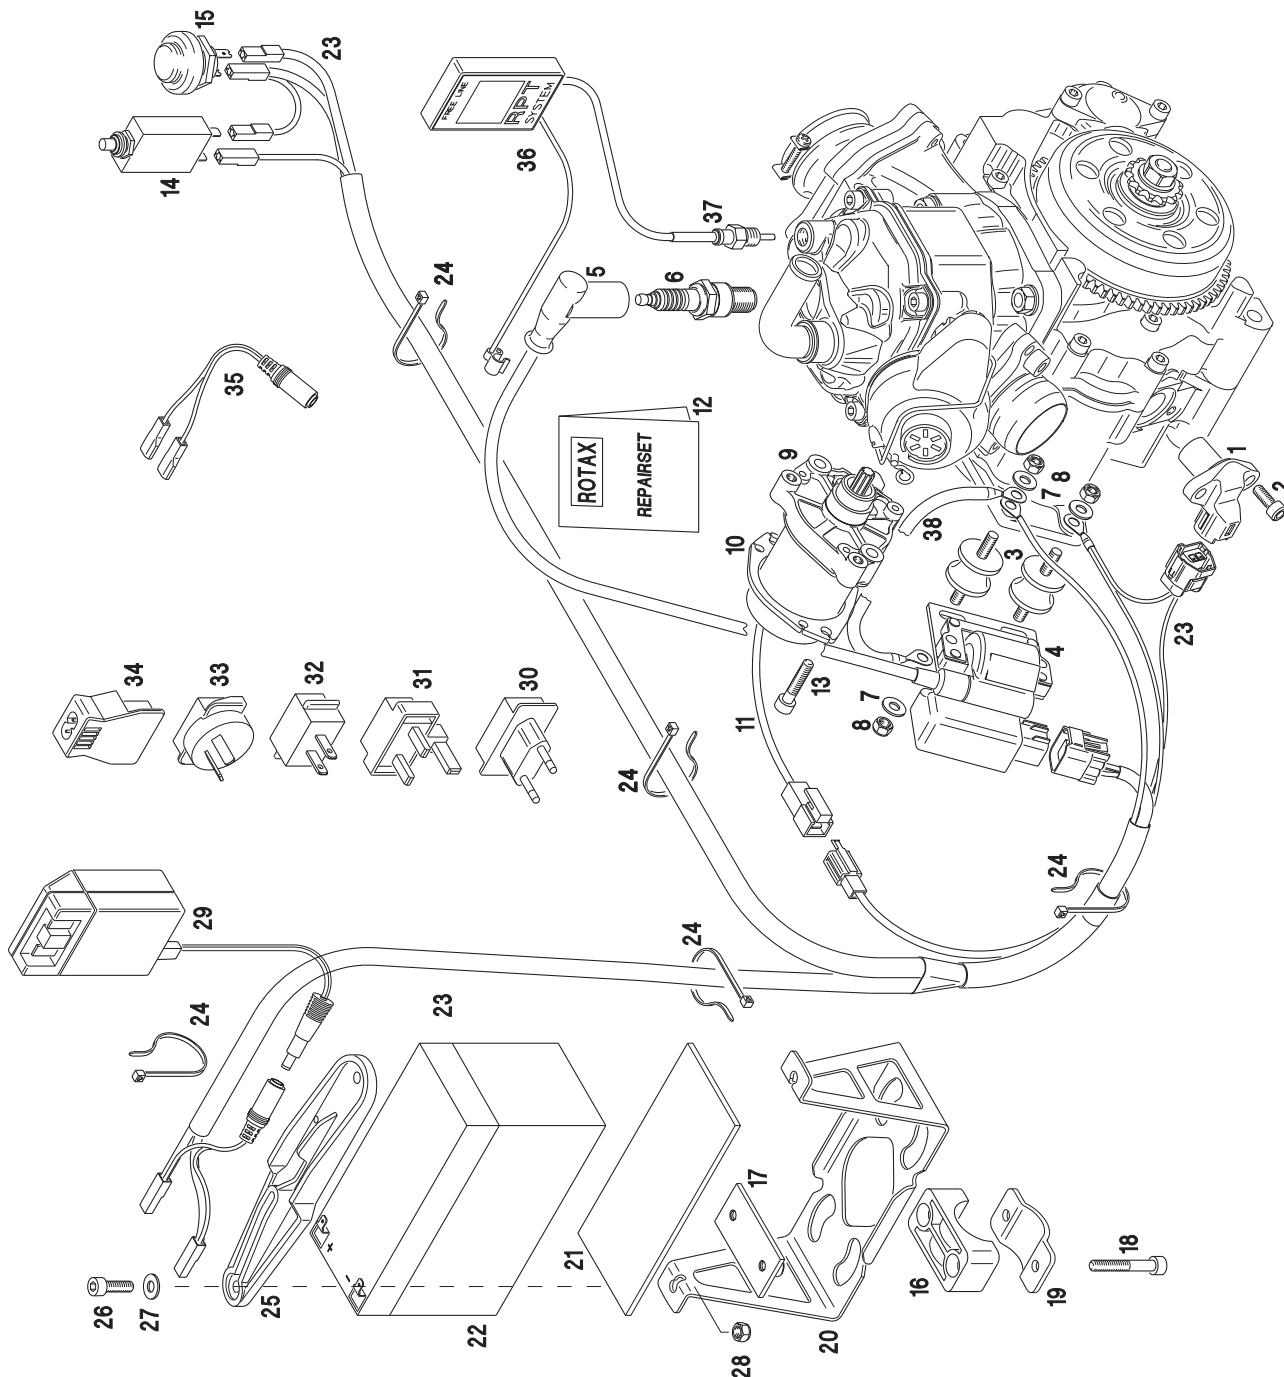

Fig. 5
For a well balanced weight distribution we recommend to locate the battery either on the left side behind the driver seat or in front of the fuel tank. For the proper attachment of the battery on the chassis ROTAX supplies a fixture kit included in the engine delivery volume (see fig. 5, pos. 20).
⇒ Establish connections in accordance with figure 5.
- ⇒ Connect the two cables of 6 mm² / S.W.G. 11 section on start button (15).
- ⇒ Connect the two cables of 2 mm² / S.W.G. 16 section on ON/OFF circuit breaker (14).
- ⇒ Attach the ignition coil as shown on illustration (fig. 5) on the reduction gear cover, utilizing the supplied attachment elements (2 x rubber mount, pos. 3,4; 4 x washer, pos. 7 and 4 x lock nut, pos. 8).
- ◆ **Note:** On the top attachment screw of the ignition coil connect also the additional grounding cable (pos. 38).
- ⇒ Connect the wiring harness on the trigger coil (pos. 1).
- ⇒ Connect the wiring harness on the ignition coil (pos. 4).
- ⇒ Connect the wiring harness on the electric starter (pos. 9).